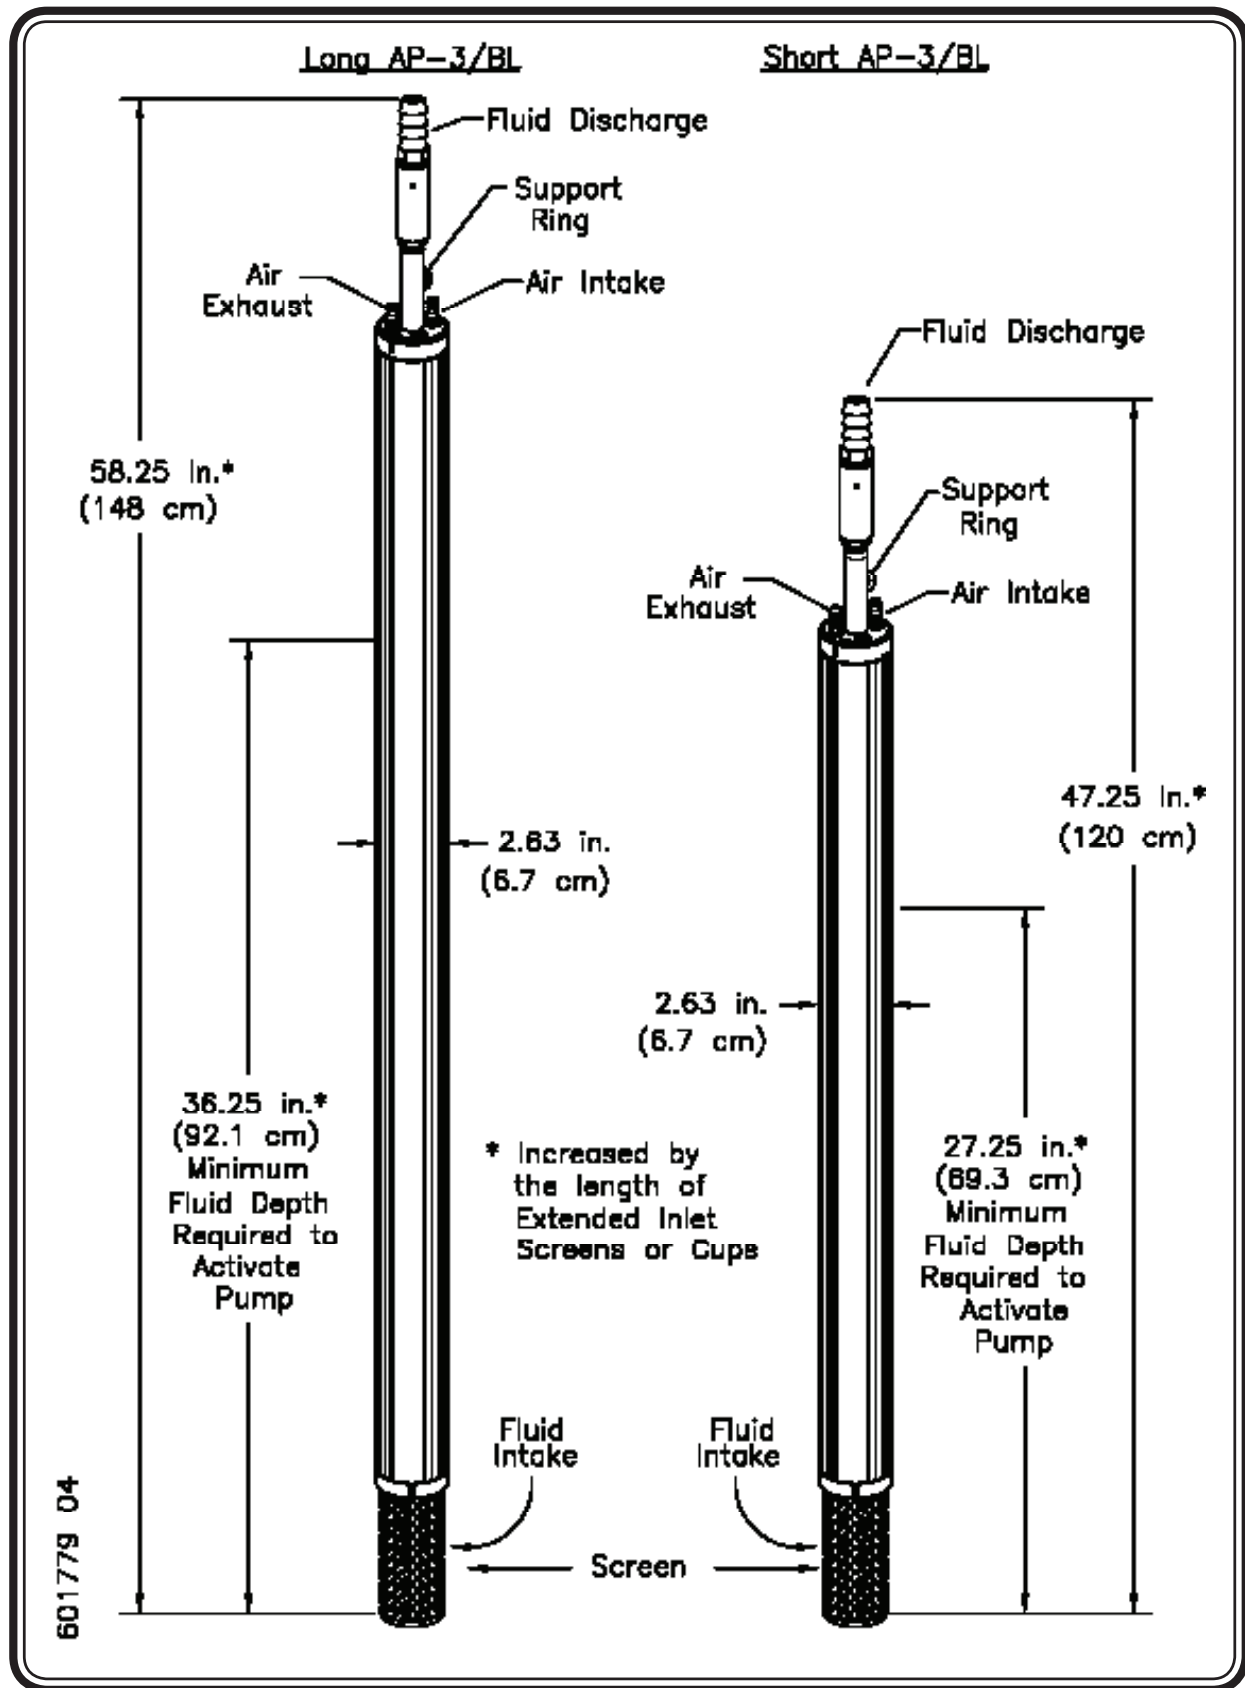

Figure 7 - Long and Short AP-3 Bottom Loading with Leachate Screen
- **Extended 5-inch (12.7 cm) Leachate Screens** – (see **figure 7**)